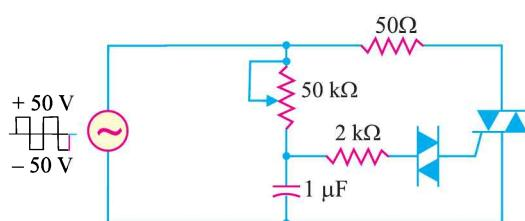

Fig. 21.35
7. If the triac of Fig. 21.35 has 1V across it when it is conducting, what is the maximum current through the 50Ω ? $[0.98\text{ A}]$